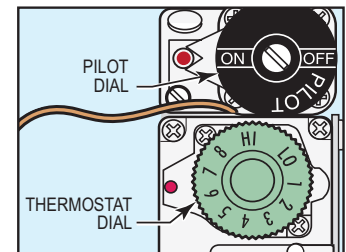

Fig 1. Dial on the gas thermostat set at 6½.
2. Locate the tiny adjustment screw, inside the stem (see figure 1). Using a small screwdriver, adjust the temperature up or down:
To adjust the main burner flame, turn the thermostat dial to 6½ for 195°F or 7 for 200°F; see figure 1. For older units (made before serial number 12327781), turn the screw under the gas cock handle in either direction to regulate the flow of gas to the main burner.